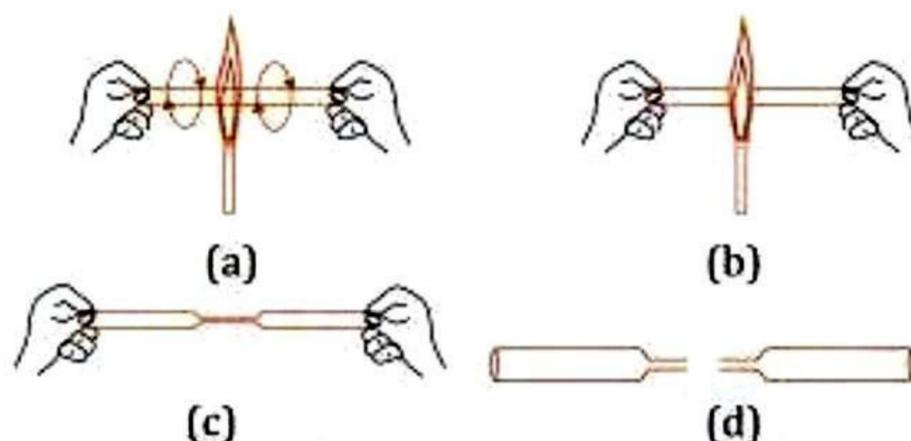

Fig. 1 Drawing a jet.
- (i) Take a delivery tube of the required length and diameter. Hold it with both hands and place it lengthwise in flame (Fig. 1).